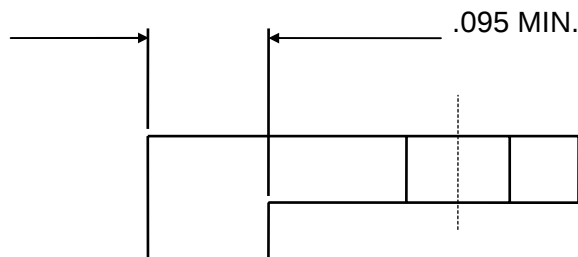

Figure 401
- C. Check bearing cups (6) in the wheel halves for looseness, wear, corrosion, spalling, brinelling, scratches, pitting, and heat discoloration. Replace defective bearing cups in accordance with REPAIR.
- D. Check roller surfaces of bearing cones (13) for wear, corrosion, spalling, scratches, pitting, and heat discoloration. Check bearing cage for nicks, dents, distortion, and wear in the roller pockets. Replace bearing cones having any of the above defects.
- E. Check the drive keys (4) for cracks, battering, or excessive corrosion. Replace cracked, battered or corroded parts. Insure that all drive keys meet the minimum thickness measurement as shown in Figure 401.